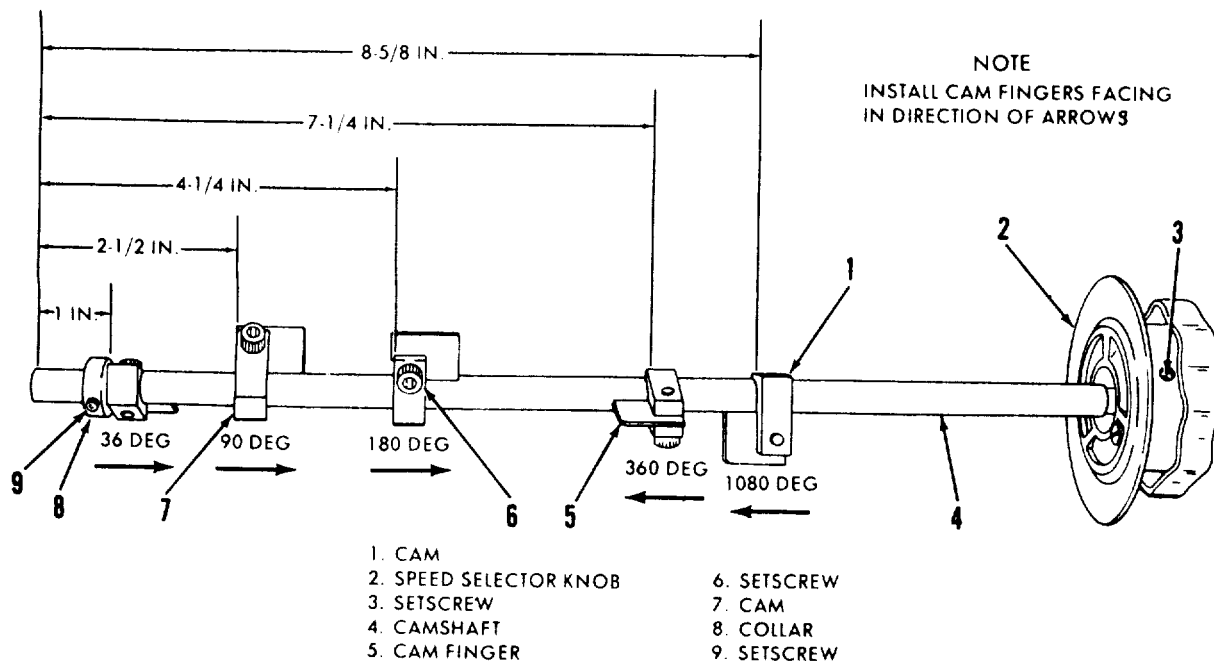
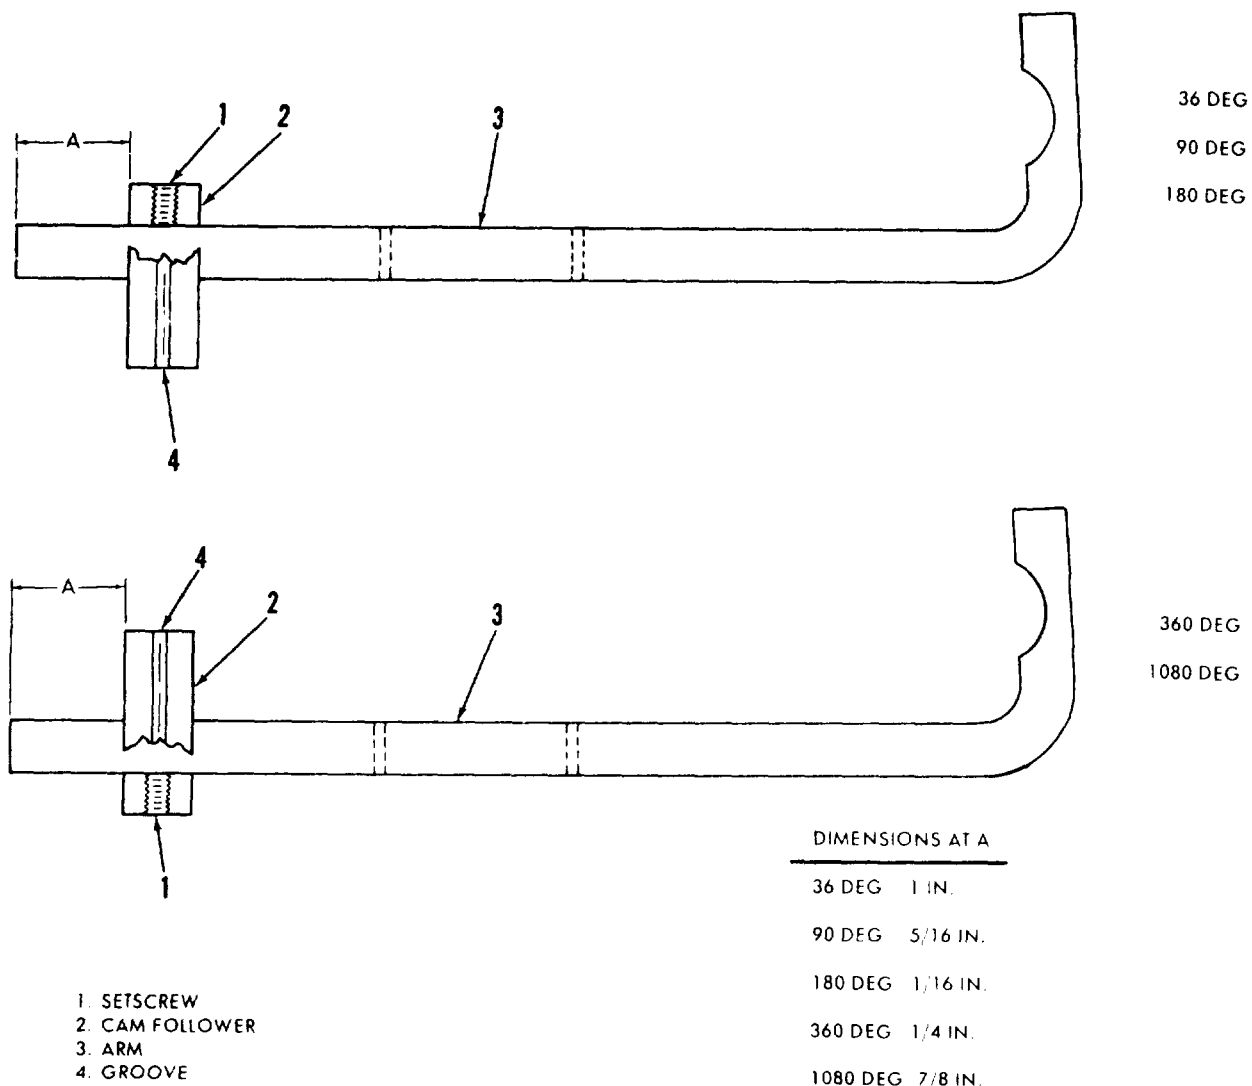
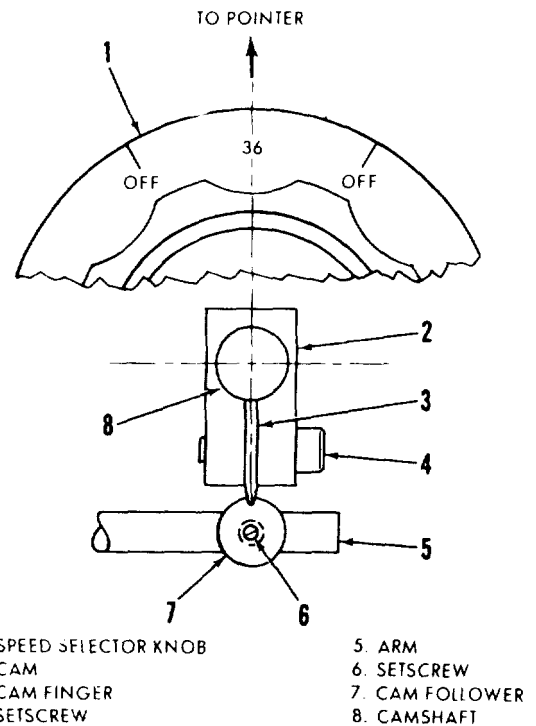

Figure 11. Cam identification.
Figure 12. Cam follower installation.
Figure 13. Cam orientation-typical.
- (1) Using a scribe or other suitable tool, lightly scribe a mark on camshaft (4, fig. 11) at collar (8) and at aft end of each cam (7) to facilitate reassembly. Scribe a line on each arm- (3, fig. 12) at cam follower (2).
Note. Use lines scribed on arms (3, fig. 12) and camshaft (4, fig. 11) during disassembly (para 73b(1)) as a positioning guide for parts during reassembly. Failure to do so will result in unnecessary time spent in adjustment of assembly. Following procedure assumes no guide marks and gives approximate positions only.
- (1) Assemble cams (64, fig. 6) and cam fingers (63) on camshaft (61) in positions shown in figure 11 and install screws (62, fig. 6). Temporarily install speed selector knob (56) and secure with setscrew (55). Orient each cam (2, fig. 13) so cam finger (3) will fall on a line extended
from its indicated speed on speed selector knob (1) through center of camshaft (8) as shown. check measurements shown in figure 11 and tighten screws (62, fig. 6).
- (2) Install cam followers (66, fig. 6) as shown in figure 12 and secure with screws (1). Note relation of screw (1) to foot of arm (3).
- (3) Install collar (58, fig. 6) firmly against 36-degree cam (fig. 11). Install screw (9) and tighten securely. Loosen setscrew (3, fig. 11) and remove speed selector knob (2).
- (1) Cams (2, fig. 13) should not contact cam followers (7). Cam followers should be contacted only by cam fingers (3).
- (3) Detent action should be positive as each cam finger (3, fig. 13) engages its corresponding groove in cam follower (7).
- (4) When engaged in each position, a line drawn from groove in cam follower (7) through center of camshaft (8) should be at right angles to upper bearing support (83, fig. 6). Pointer (9) should align with corresponding speed number on speed selector knob (1, fig. 13).
Note. Corrective steps below correspond to same step number in b above. Make sure trouble is diagnosed properly before attempting adjustments below. Much time can be lost needlessly adjusting properly positioned components. See figure 11 to be sure cam parts related to subject speed are being adjusted.
- (1) Turn speed selector knob (1, fig. 13) until cam finger (3) of subject ca (2) actuates its cam follower (7). Loosen setscrew (4) and slide cam (2) along shaft as necessary to correct condition, maintaining proper adjustment. Perform step (4) below.
- (3) Inspect cam finger (3, fig. 13) and cam follower (7) for damage, wear, and proper alignment. Replace defective components as necessary as outlined in paragraphs 7:3
- (4) Turn speed selector knob (1) to each speed in turn. If knob index is off pointer (9, fig. 6) at each position approximately an equal amount, knob may have slipped on camshaft (8, fig. 13), or case (4, fig. 6) may be improperly aligned. Loosen screws (3) and setscrews (55). Align knob index and pointer (9) and retighten screws to correct overall alignment. Correct individual misalignment by loosening set-screws (4 and 6, fig. 13) and aligning cam finger (3) and cam follower (7) as shown in figure 13 while maintaining proper alignment of index on speed selector knob (1). Tighten setscrews (4 and 6).
- (5) Replace springs (49, fig. 6) if tension is too weak to hold cam followers (7, fig. 13) against camshaft (8) when not engaged by cam fingers (3).